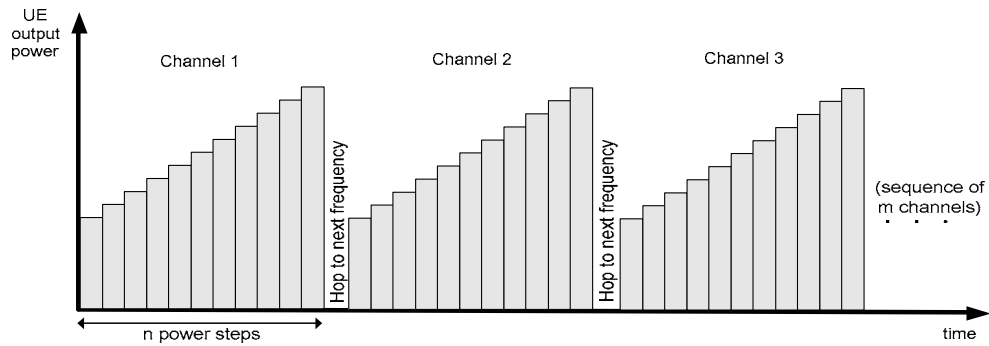

Fig. 1 TX calibration: mobile power settings
1. Stimulate the mobile transmitter to change its power periodically as shown in Fig. 1 below. Start power: 0 dBm; increment: 2 dBm; DTX frame after the mobile has reached +20 dBm (each 12th frame).
The first, non-editable *RF Generator* frequency is given by the common generator frequency defined via *Generator Settings – RF (TX) Frequency*. The generated power step sequence is analogous to Fig. 1 on p. 3 ff.